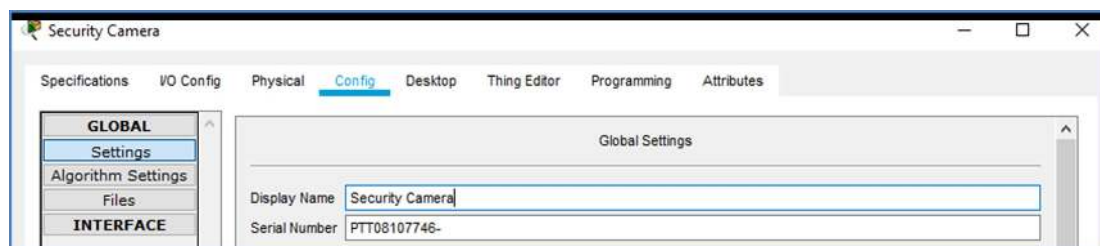

Figure 11.3: Renaming the device as “Security Camera.”
- (d) Press *Enter* or click elsewhere to confirm the change (Figure 11.3).